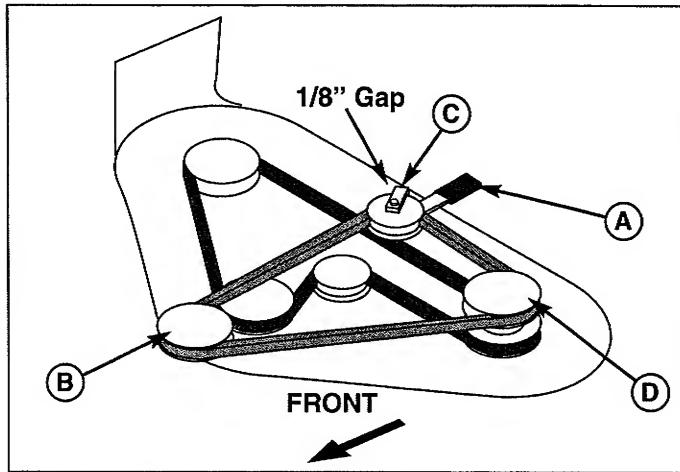

Figure 54. Mower Belt Routing
- Move the idler arm (A, Figure 54) to relieve belt tension. Drop the belt from the PTO (electric clutch) pulley.
- Loosen the nut and lockwasher securing idler pulley belt guide (C, Figure 54).
- See Figure 54. Position the idler pulley belt stop (C) in its original position so that there is a 1/8" (3mm) gap between the pulley and belt stop.